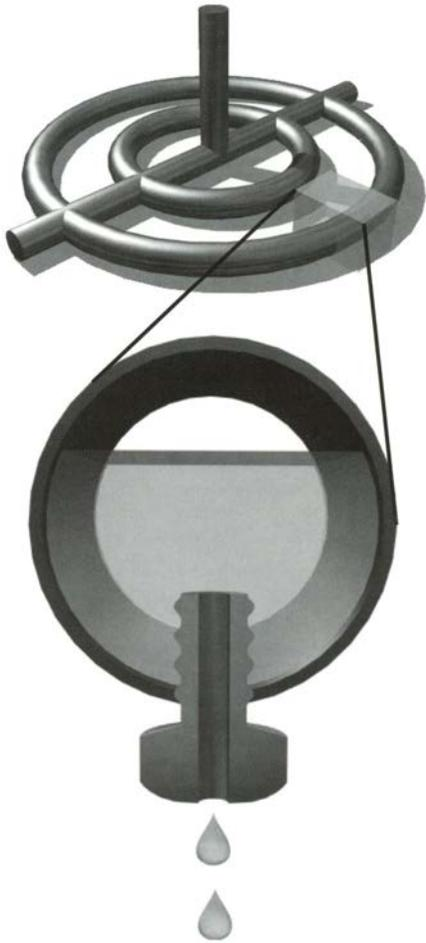

Figure 8
4. For columns 10 inches in diameter and larger, one effective method of distribution is by the use of a circular manifold of concentric tubes (see Figure 8) with holes drilled and tapped on the bottom side on approximately 2" centers. Into the tapped holes "orifice screws" are inserted. These screws regulate the amount of liquid reflux which flows from each hole and thus ensures that there will be flow from all holes rather than from a scattered indefinite few. At the same time the screws serve as drip points.